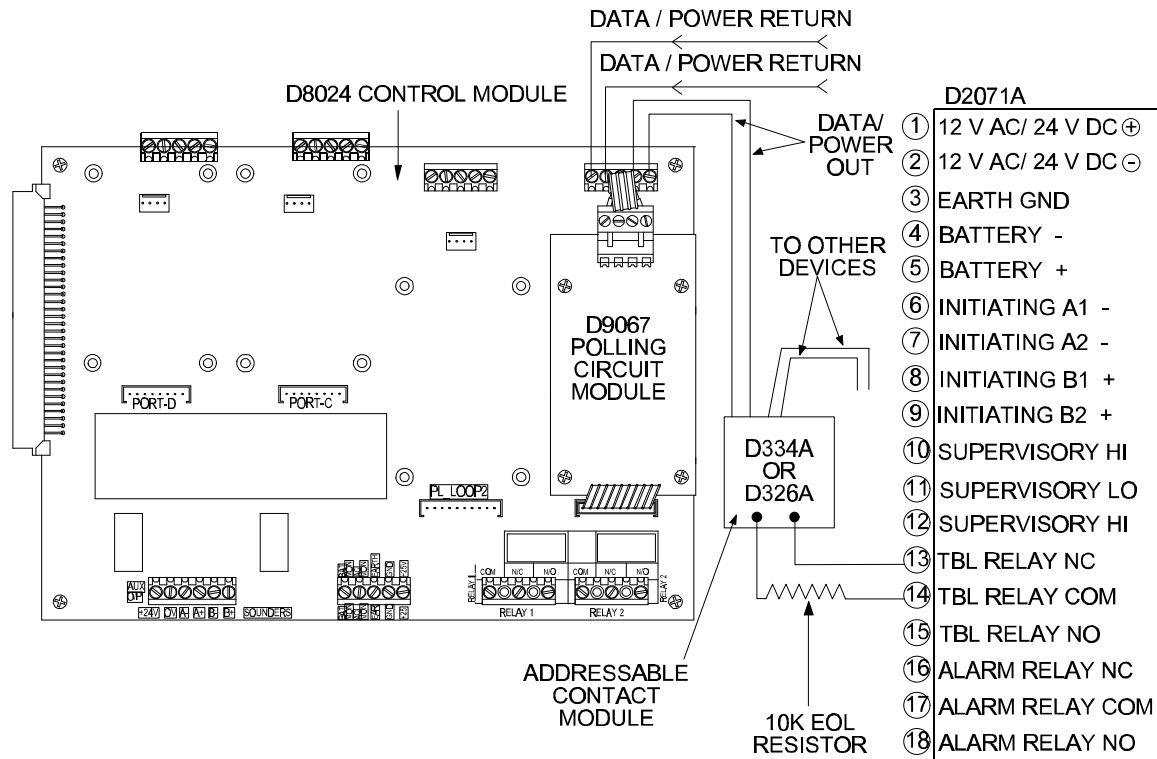

Figure 17: Wiring the D2071A for Trouble Annunciation on the D8024
- The D2071A can be wired so that a trouble condition on the D2071A will cause a trouble condition on a point implemented by a D334A or D326A module. See Figure 17 for wiring connections.